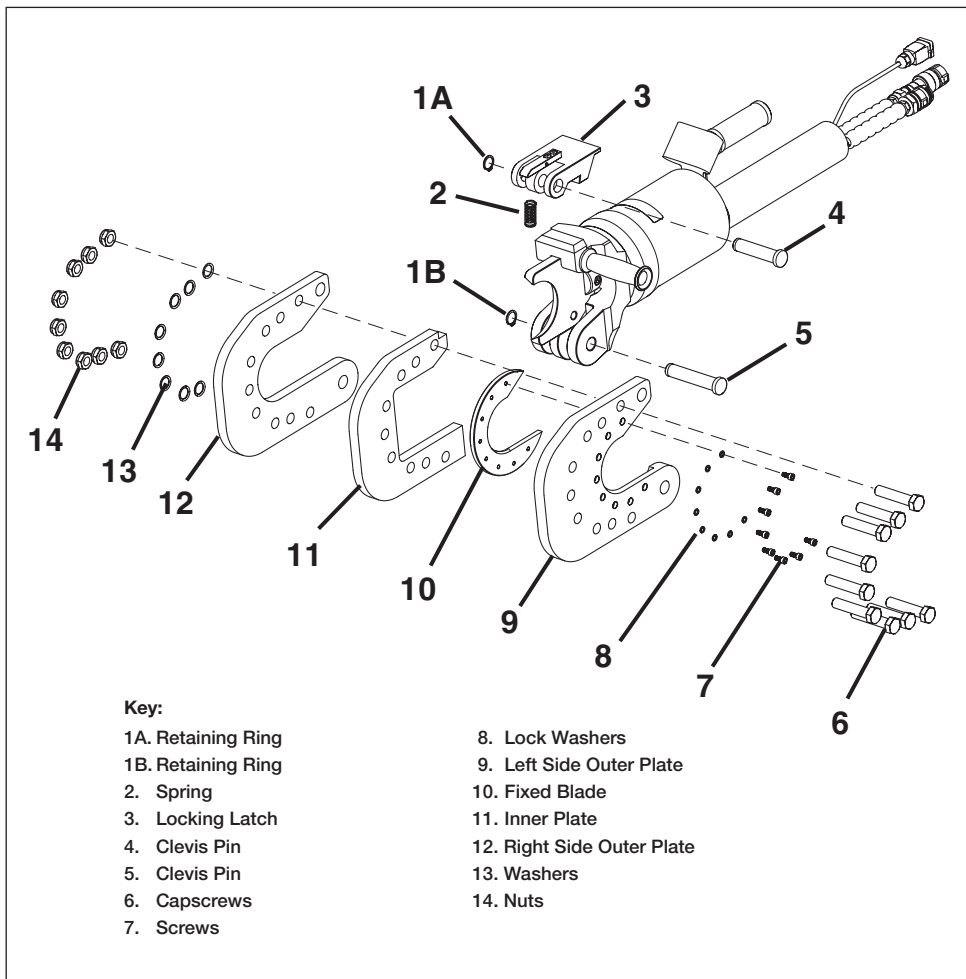

Figure 12, Fixed Blade Replacement (Model EWCH90 shown, EWCH140 similar)
Replace the fixed blade as described in the following steps. Refer to Figure 12.
6. Remove retaining ring (Figure 12, item 1B). Remove clevis pin (Figure 12, item 5) and cutting head (Figure 12, items 6-14).
7. For model EWCH90, remove nine capscrews (Figure 12, item 6), washers (Figure 12, item 13) and nuts (Figure 12, item 14). For model EWCH140, remove six socket head screws, washers and nuts.
8. Separate left side outer plate (Figure 12, item 9), inner plate (Figure 12, item 11) and right side outer plate (Figure 12, item 12).
9. For model EWCH90, remove eight fixed blade screws (Figure 12, item 7) and washers (Figure 12, item 8) and remove fixed blade (Figure 12, item 10). For model EWCH140 remove seven fixed blade screws and washers and remove blade.
10. For model EWCH90, install new fixed blade (Figure 12, item 10) onto left side outer plate (Figure 12, item 9) with eight fixed blade screws (Figure 12, item 7) and lock washers (Figure 12, item 8) and torque to 91 in-lb [10 Nm]. Also apply Loctite 243 or equivalent.
11. For model EWCH140, install new fixed blade (Figure 12, item 10) onto left side outer plate (Figure 12, item 9) with seven fixed blade screws (Figure 12, item 7) and lock washers (Figure 12, item 8) and torque to 18 ft-lb [25 Nm]. Also apply Loctite 243 or equivalent.
12. Assemble the left side outer plate (Figure 12, item 9), inner plate (Figure 12, item 11) and right side outer plate (Figure 12, item 12) using nine capscrews (Figure 12, item 6), washers (Figure 12, item 13) and nuts (Figure 12, item 14) for model EWCH90 and six socket screws, washers and nuts for model EWCH140. Torque to 155 ft-lb [211 Nm]. Also apply Loctite 243 or equivalent.
13. Attach cutting head (Figure 12, items 6-14) to tool body using clevis pin (Figure 12, item 5) and retaining ring (Figure 12, item 1B).